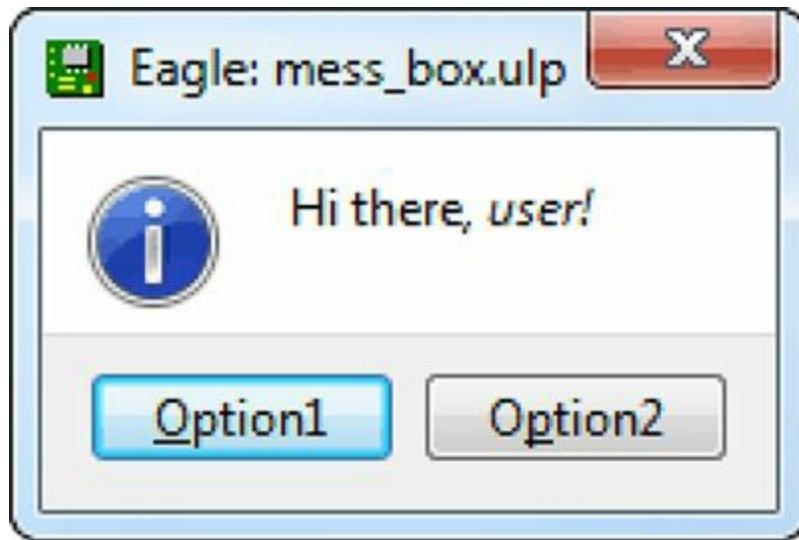
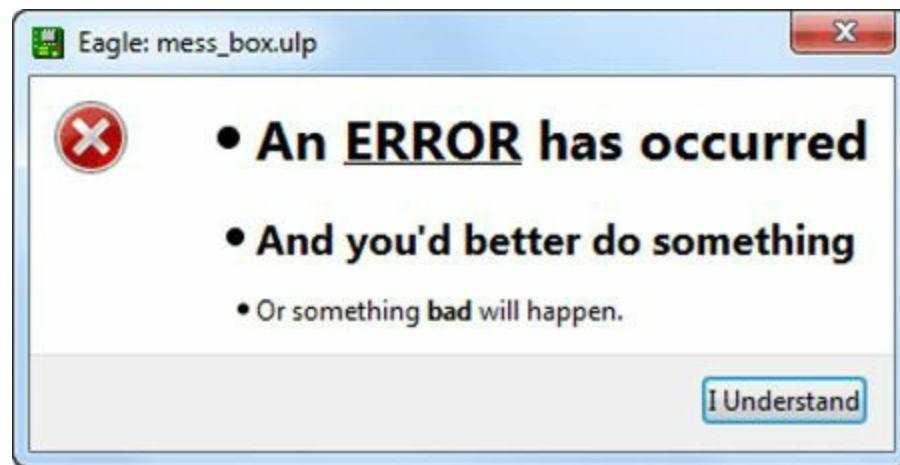

Figure 13.1: An Example Message Box
Figure 13.2: HTML Formatting
This produces the dialog box shown in Figure 13.1.
- **Information**—If the dialog provides information to the user, the information icon can be included by preceding the message string with the semicolon (;). This is the icon displayed in Figure 13.1.
Figure 13.2 shows what the resulting dialog looks like. It displays an error icon on the left because the message string starts with a colon.
It's interesting to compare the buttons in Figure 13.1 to the button in Figure 13.2. In Figure 13.1, the buttons are expanded to occupy the width of the dialog. The button in Figure 13.2 has more text, but its size is reduced to match that of the text.
In Figure 13.1, the left button is outlined and shaded. This means the left button is the dialog's default button, and if the user presses Enter, this button will be clicked.
In Figure 13.1, the text of both buttons contains an underlined character. That is, the O in the left button is underlined and the p in the right button is underlined. When the user presses either the o or p